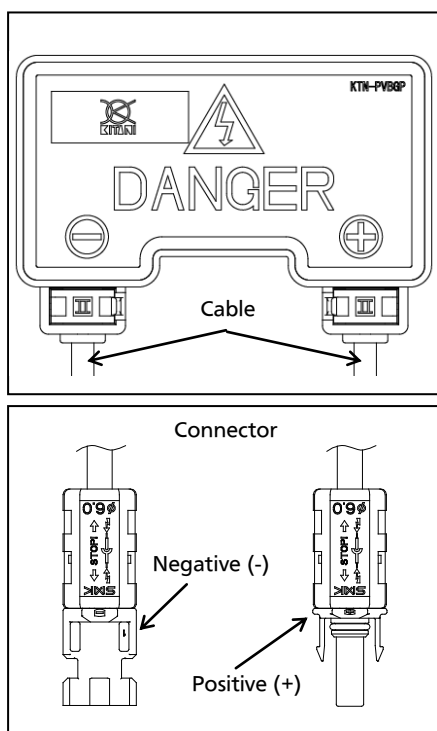

Figure 2. Configuration of Junction Box
- One terminal is dedicated to each polarity (with the polarity symbols engraved onto the body of the junction box) (see Figure 2).